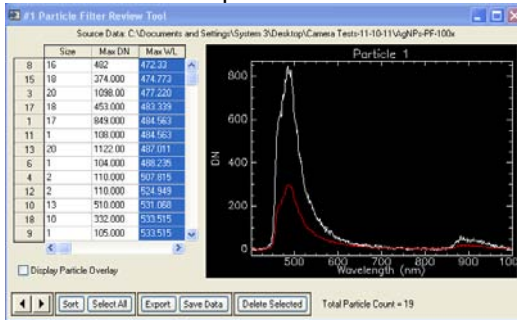
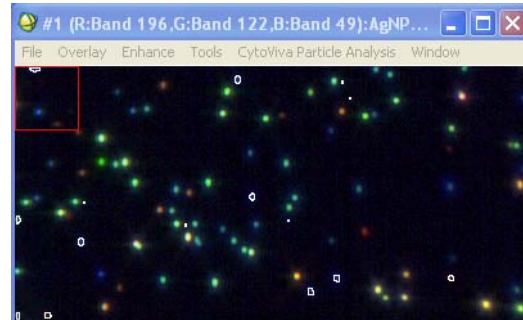

Figure 3. Particle Filter Review Tool Box
Figure 4. Main Image Window for Particle Filter
9. The Particle Filter Review Tool box opens (See Figure 3) and the detected particles are circled in the main image window (See Figure 4). With this example using the settings given above, the Particle Filter automatically found and circled several smaller, less bright particles.